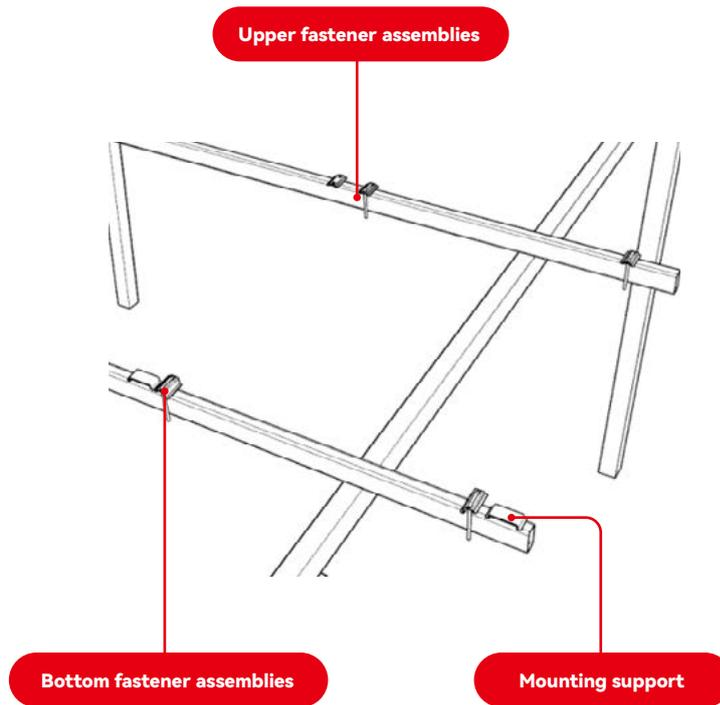

FIGURE 8
- Place the upper fastener assemblies on the second row of purlins and the position of mounting accessories are as follows (Figure 8) ;